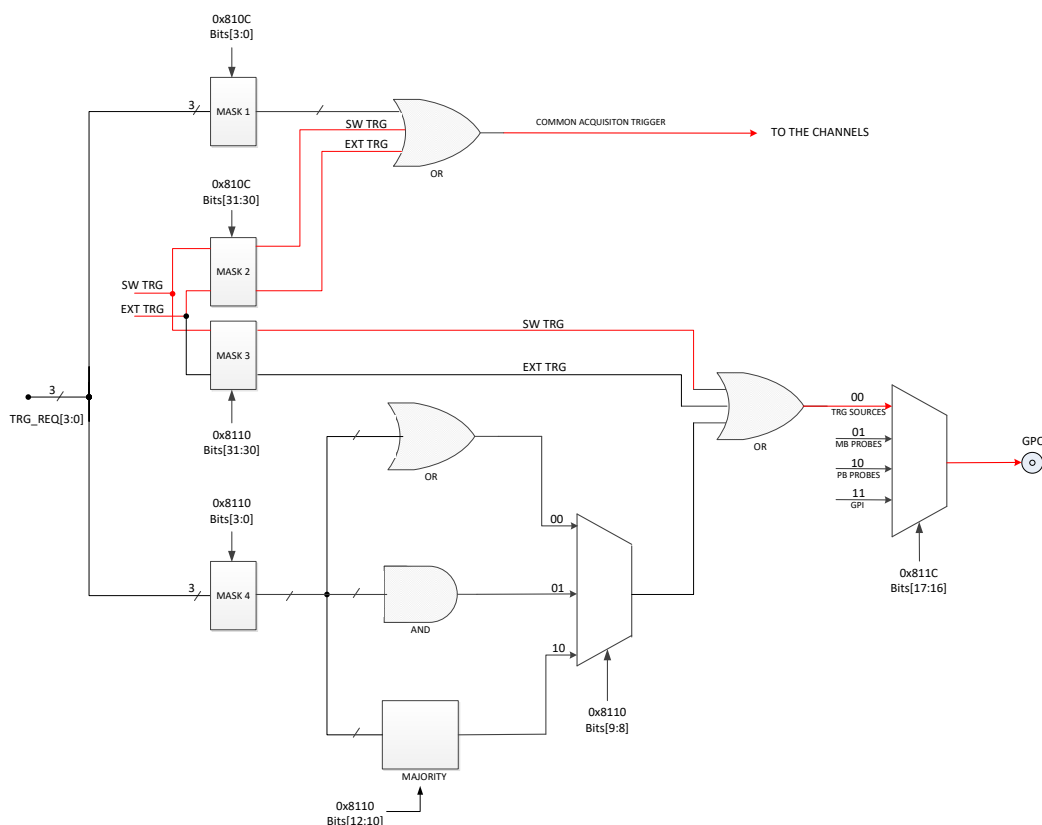

Fig. 8.20: Trigger configuration on GPO front panel output connector
As described in Sec. **Trigger Management**, the OR of all the enabled trigger sources, synchronized with the internal clock, becomes the common trigger of the board that is fed in parallel to all channels, consequently provoking the capture of an event. By default, only the Software Trigger and the External Trigger participate in the common acquisition trigger (refer to the red path on top of **Fig. 8.20**).
Thanks to its configurability (see **Fig. 8.20**), GPO can propagate out:
- the OR of all the enabled trigger sources (only the Software Trigger is provided by default, as in the red path of **Fig. 8.20**);